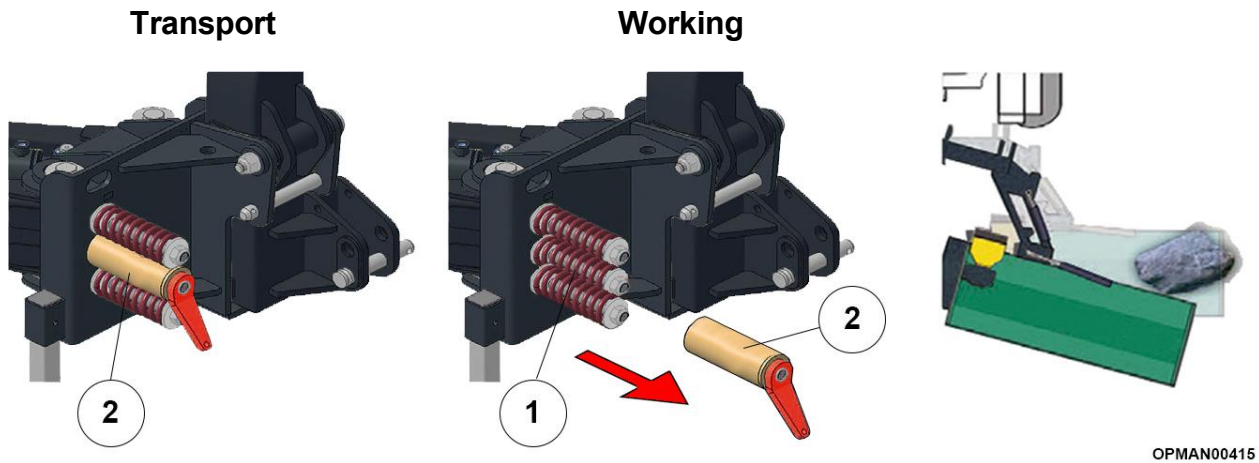

Figure 10
Sniper HD Offset machines feature three springs fitted to the headstock (Figure 10(1)) to allow the machine to automatically breakback if the machine comes into contact with an item or if it needs to follow uneven terrain when in work.
These springs should be fitted to the machine at all times as shown in Figure 10.
The machines also feature a transport spring safety lock sleeve (Figure 10 (2)) which should be fitted during transport to ensure the machine stays as stationary as possible when folded. This safety lock should be slid over the centre spring and then secured in position through use of the handle.